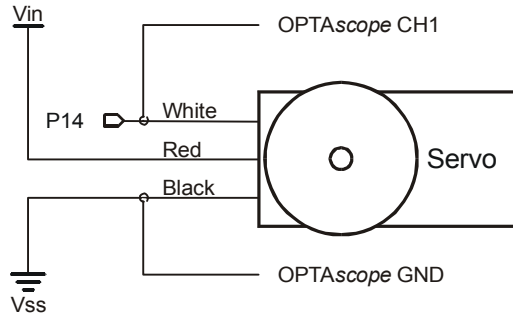
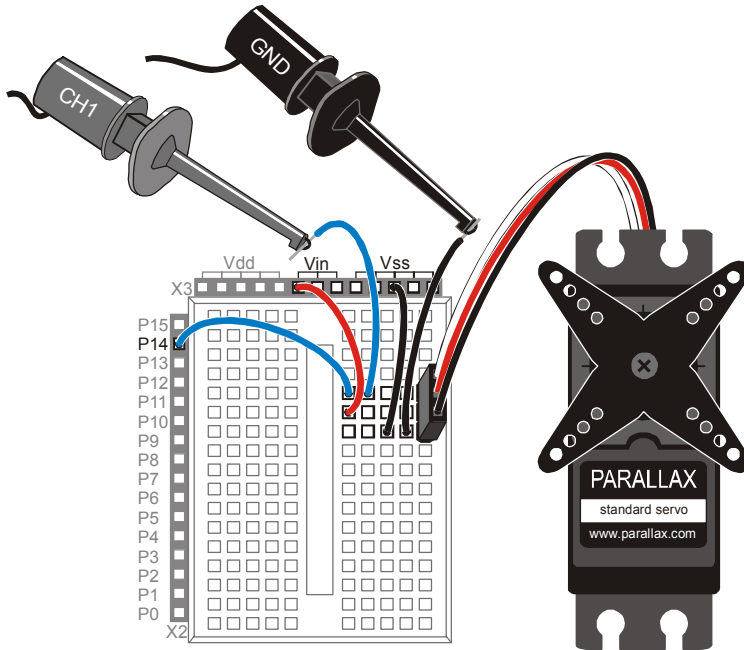

Figure 2-4:
Figure 2-5:
- ✓ Build the circuit as shown in Figure 2-4 and Figure 2-5 below.
- ✓ Connect the OPTAscope CH1 probe to P14 and the Ground probe to Vss as shown in Figure 2-5.